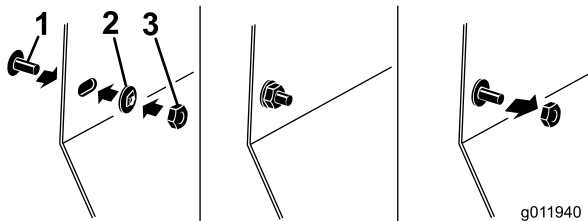

Figure 3
2. Install the screw (5/16 x 3/4 inch) to the side panel and turn over to install the push nut onto the bolt (Figure 3).
3. Install the hex nut (5/16 inch) over the screw and push nut (5/16 inch) and tighten to flatten the push nut onto screw (Figure 3).